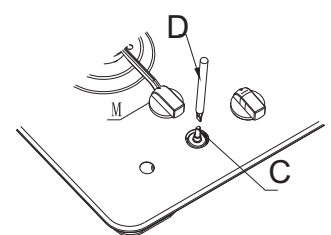

Fig. 7
- The adjustment of the reduced rate position is as follows (fig. 7): Light the burner and turn the knob to reduced rate position.